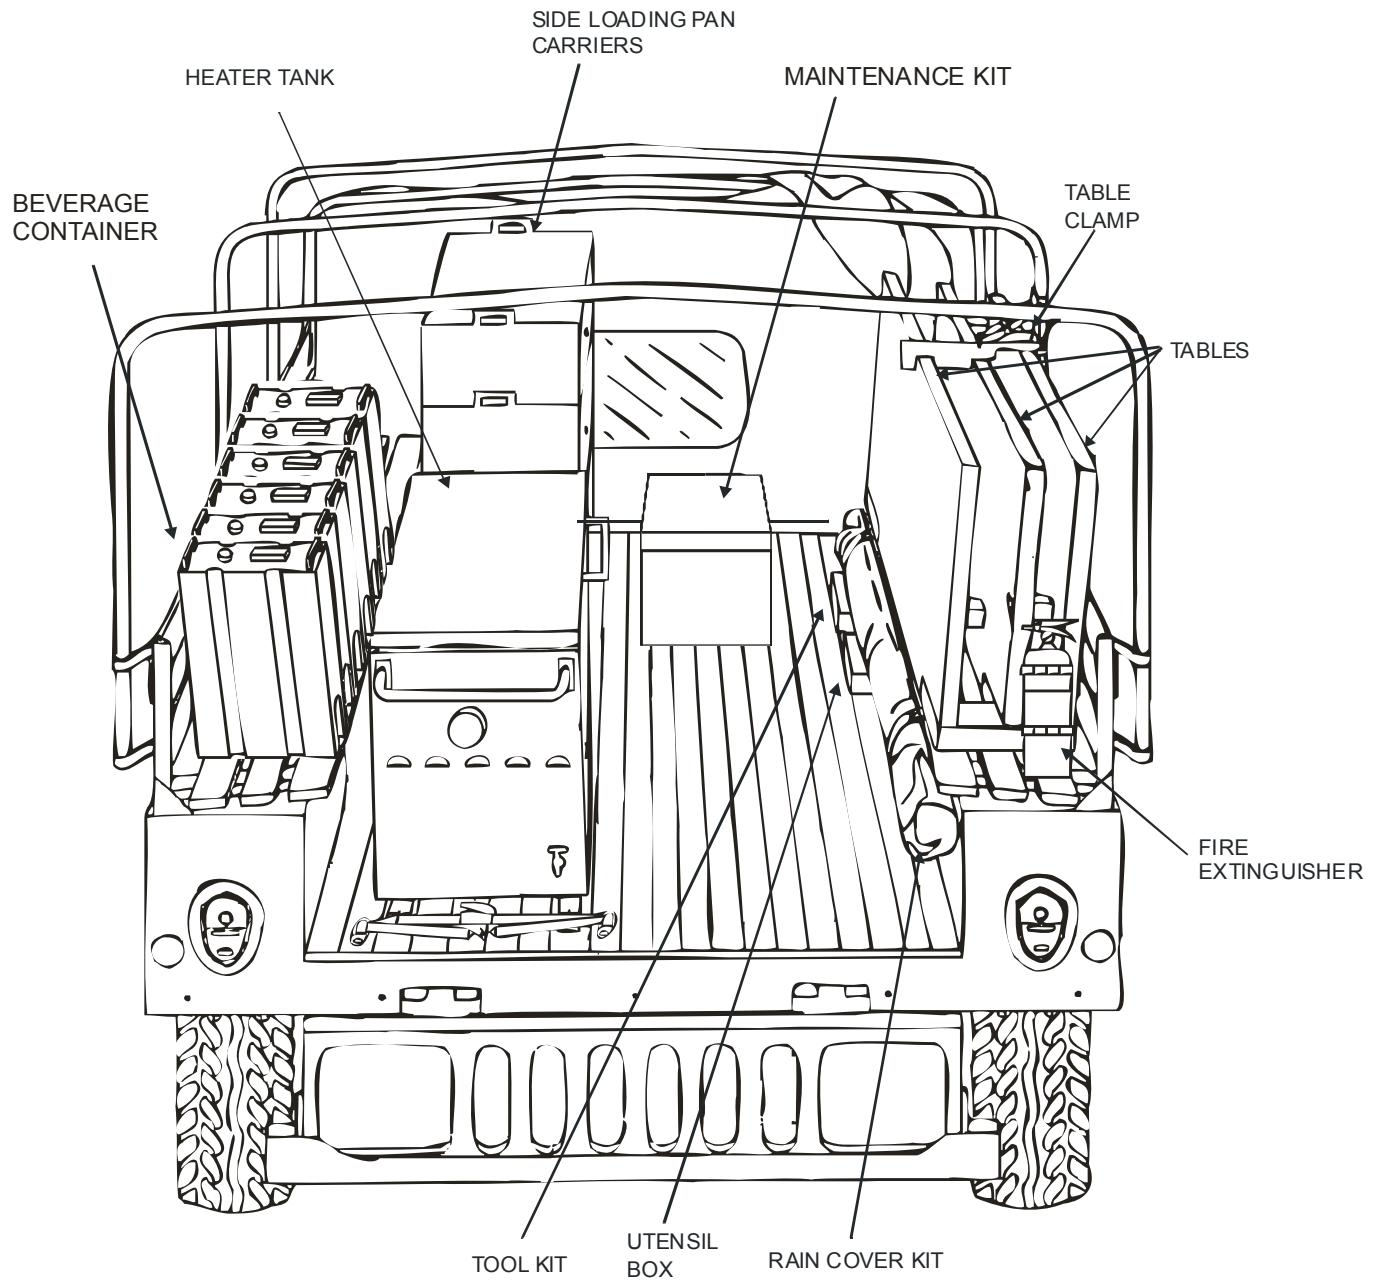

Figure 1-2. Installed TRHS, Tailgate View
1-3. SERVING TABLES, STOWING CLAMP, AND BRACKETS. **Three folding metal tables are stowed in the HMMWV as shown in figures 1-2 and 1-10.** Two brackets, which fit on the right hand seat, secure the collapsed tables and prevent movement forward and back. A clamp, also installed on the right hand seat, and attached to the canvas support, secures and separates the tables.
c. Other Equipment. Other essential TRHS collateral equipment includes: fire extinguisher, tool box, beverage dispensers, and serving utensils. Table 1-1 contains a complete listing of collateral equipment. Figure 1-2 shows collateral equipment stowed aboard the HMMWV. Figures A-1 and A-2 illustrate individual collateral equipment components.